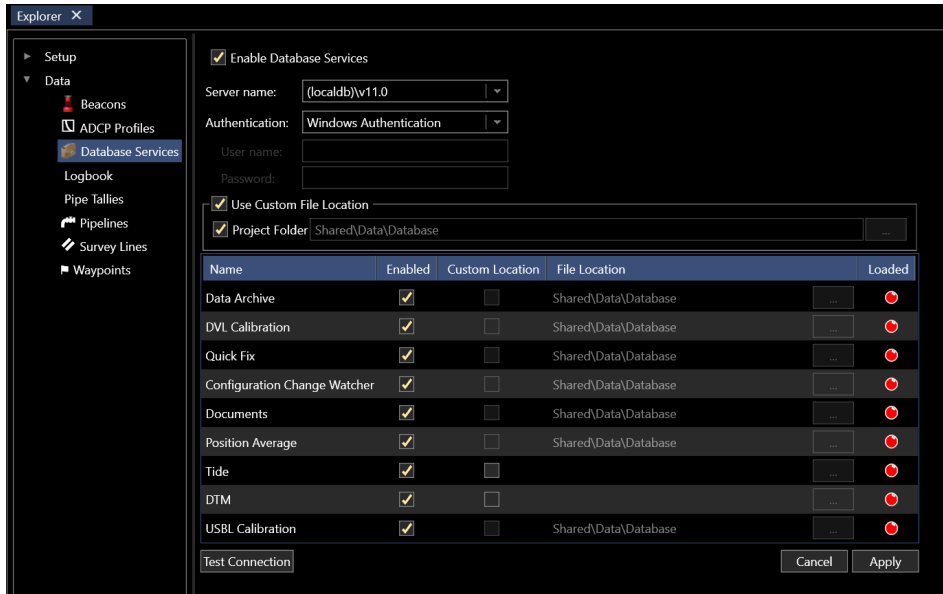

FIGURE 14-3 DATABASE SERVICES ENABLED
2. **Enable Database Services:** Check this box to enable database services, this will activate the options for selecting the Database Server. See FIGURE 14-3